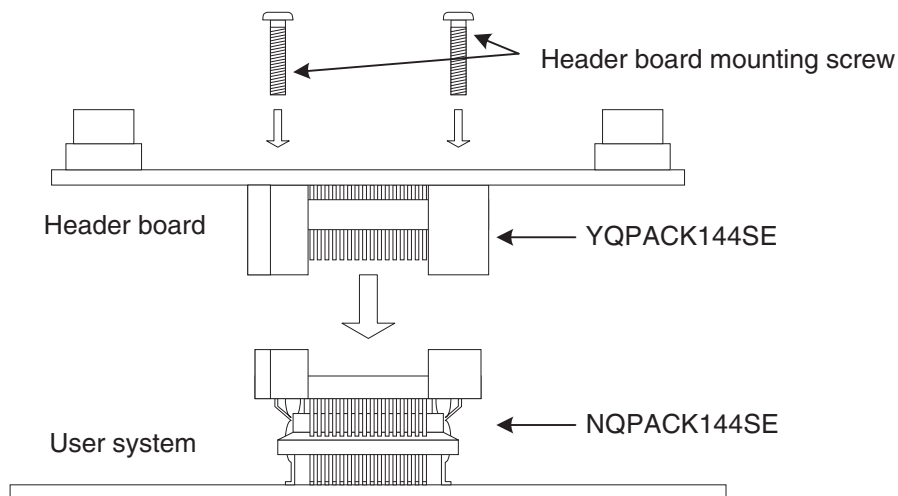

Figure 2-1 Header board connection
- To connect the header board to the user system, match the index mark (▲) on the NQPACK mounted on the user system with the index mark (△) on the header board, and then insert it. Next, secure the header board with four screws. (See Figure 2-1.)